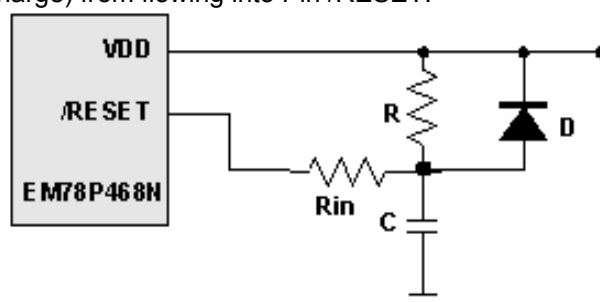

Fig. 12 External Power on Reset Circuit
This circuit implements an external RC to produce a reset pulse (see Fig.12). The pulse width (time constant) should be kept long enough to allow VDD to reach minimum operation voltage. This circuit is used when the power supply rise time is slow. Because the current leakage from the /RESET pin is about $\pm 5\mu\text{A}$, it is recommended that R should not be great than 40K. In this way, the voltage at Pin /RESET is held below 0.2V. The diode (D) acts as a short circuit at power-down. The capacitor, C, is discharged rapidly and fully. Rin, the current-limited resistor, prevents high current discharge or ESD (electrostatic discharge) from flowing into Pin /RESET.